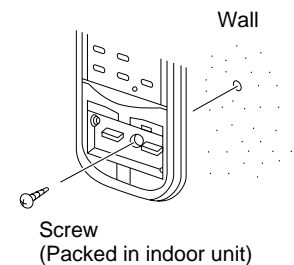

Fig. 8
- 6) Use a screwdriver to screw the remote control unit securing screw into the wall through the hole in the battery compartment. (Fig. 8)